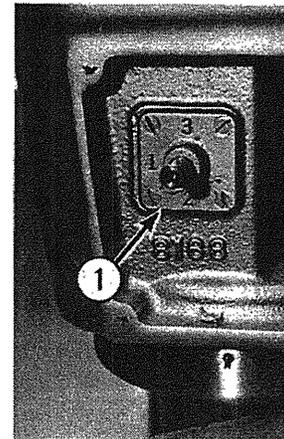

Fig. 5-2
- C. Remove four screws and pull the gear selector plate (Fig. 5-2).